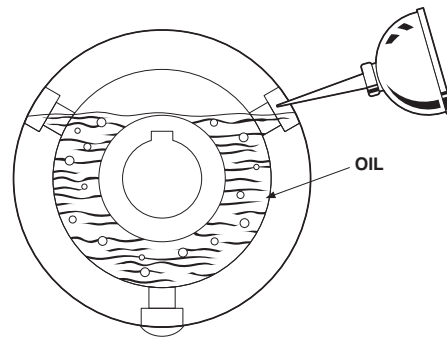

Figure 1
1. Three holes, 120 degrees apart, are located in the clutch outer race, (see Figure 1).